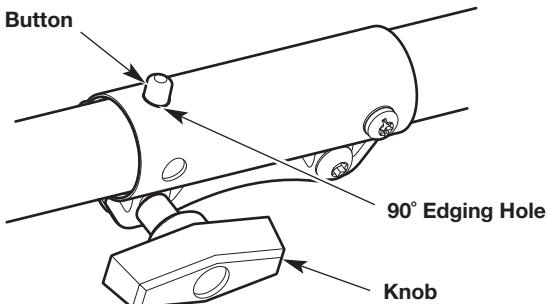

Fig. 15
1. Turn the knob counterclockwise to loosen the coupler (Fig. 15).
2. Press and hold the release button (Fig. 15).
3. Rotate the attachment until the release button snaps firmly into the 90° edging hole (Fig. 15).
4. Turn the knob clockwise to tighten the coupler (Fig. 15).